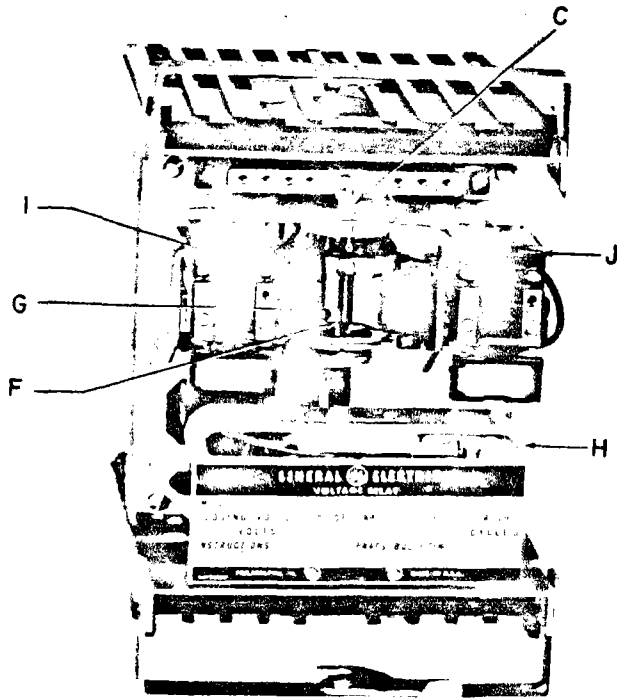

Fig. 2. Typical IAV relay, front view
- (1) Figure 2 on page 2 indicates that reference letter for stationary main contact is "G".
- (2) Locate reference letter "G" in column headings on page 3.
- (3) At intersection of "G" column and Model 12IAV51A7A line find numeral "1". Complete reference symbol is therefore "G-1". Referring to page 9, catalog number is found to be 6209430G1 (one required per relay).